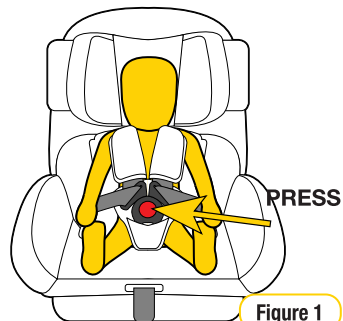

Figure 1
Step 2: To release your child from the restraint simply press the red button on the harness buckle and carefully remove your child from the restraint (refer Figure 1).